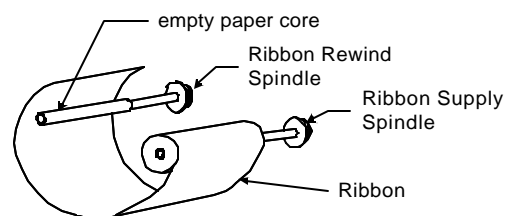

Fig. 2.2.3
3. Install a new ribbon onto the supply spindle and install a empty paper core onto the rewind spindle (see figure 2.2.3)